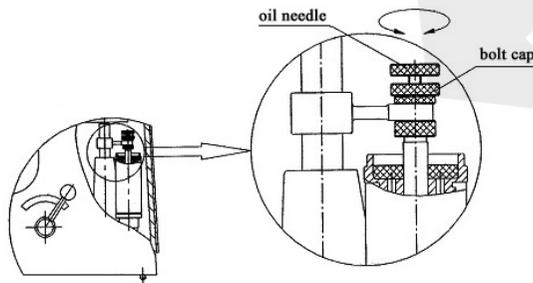

Figure 11
- d. Turn the hand wheel (4) so that the hardness block raises the indenter until the shorter pointer points to red mark, and then the preliminary test force has been applied.
- e. As per the loading direction on loading label, pull the loading handle (2) slowly towards the front of the machine body (approximately 4 seconds) to the limit position, and then the main test force has been applied.
- f. Keep eyes on the longer pointer of indication dial gauge and make sure that it takes 4 to 8 seconds for it to start turning till stop. Otherwise, regulate it by turning oil needle as follows: First, loosen the bolt cap on the buffer (see Fig 11), turn the oil needle lightly. To turn it anticlockwise, the loading speed will rise, while to turn it clockwise, the loading will slow down. Repeat the above steps until everything is ok, and then tighten the bolt cap.